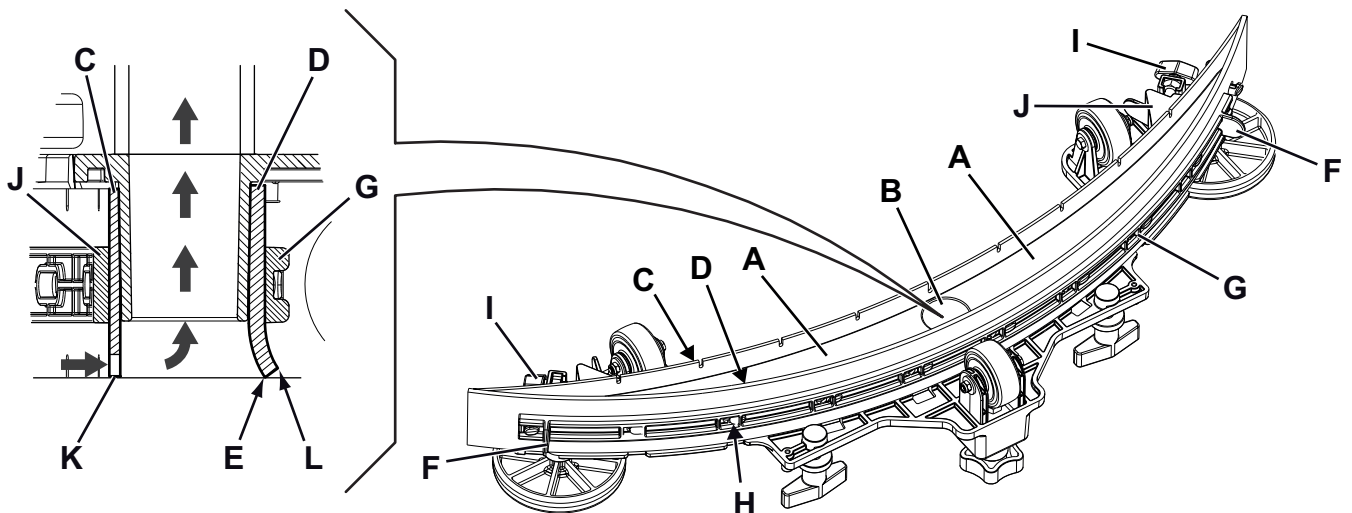

Figure 8
2. Ensure that the machine is off and the operator key (41) is turned to "O".
3. Loosen the handwheels (32) and remove the squeegee (13).
4. Wash and clean the squeegee. In particular, clean the compartments (A, Fig. 8) and the vacuum hole (B). Check the condition of the front (C) and rear (D) blades, ensuring there are no cuts and tears; if necessary, replace them as shown below.
2. Check the condition of the front (C, Fig. 8) and rear (D) blades, ensuring there are no cuts and tears; if necessary, replace them as shown below. Check that the front corner (E) of the rear blade is not worn; otherwise, turn the blade to replace the worn corner with one of the three remaining intact corners. If the other corners are worn too, replace the blade according to the following procedure:
- Using the tab (F), release and remove the elastic strap (G) from the fasteners (H), then turn or replace the rear blade (D).
- Unscrew the handwheels (I) and remove the strap (J), then turn or replace the front blade (C).
3. Install the squeegee (13) and screw down the handwheels (32).
- Check that the lip (K) of the front blade (C) and the lip (L) of the rear blade (D) are resting as shown in the figure.
- Use the knob (33) to make adjustments.